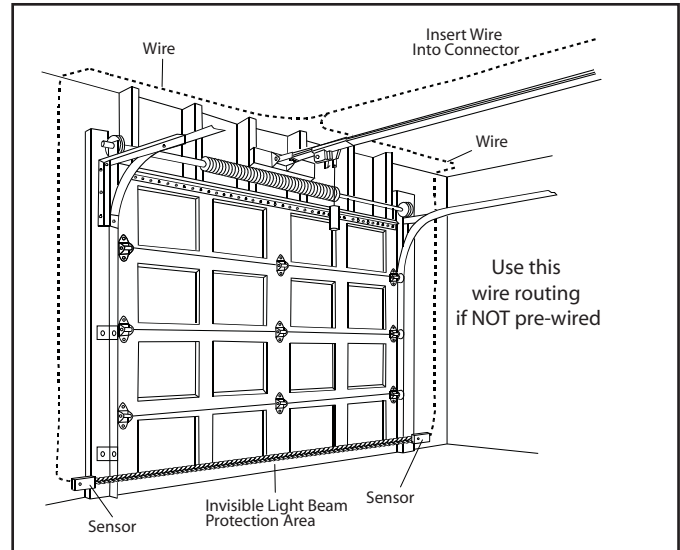

FIG. 4-6 Wire routing.
- Securely fasten wires to wall and ceiling as you go (**Fig. 4-6 on next page**).